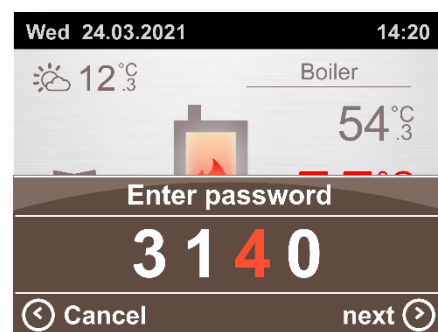

fig. 6
Pressing (F) will show bar with area to enter safety password on the bottom of the screen (fig. 6).